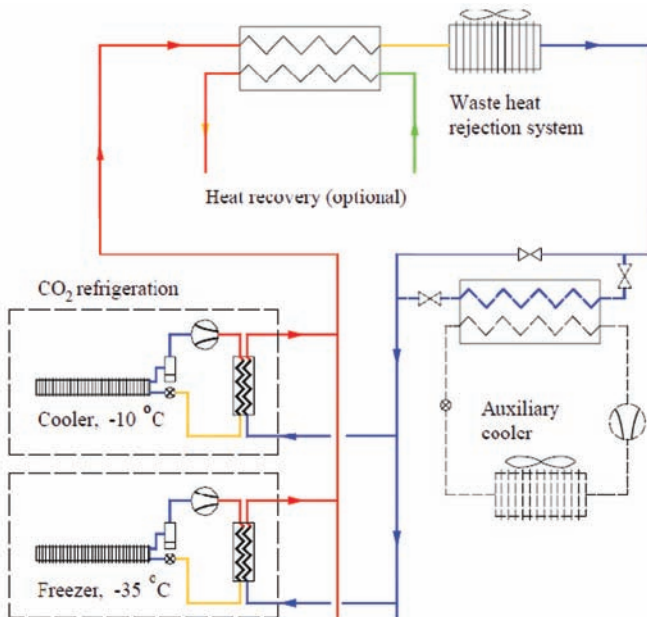

Fig. 3: Decentralized CO₂ supermarket refrigeration system
- Supermarket Refrigeration Systems (may be for both refrigeration and heating; Fig. 3).